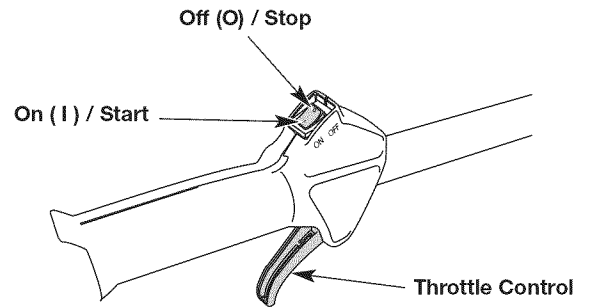
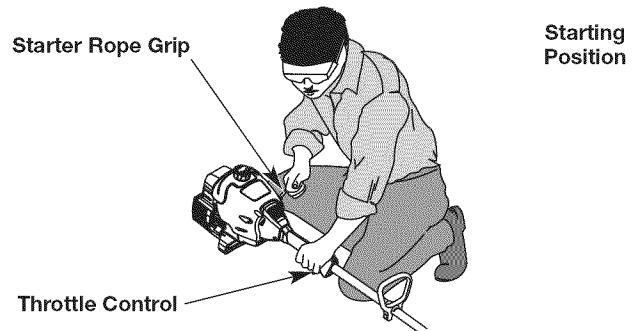

Fig. 6
Fig. 8
**WARNING:** Avoid accidentally starting the unit. To avoid serious injury, the operator and the unit must be in a stable position when pulling the starter rope (Fig. 8).
**NOTE:** There is no need to turn the unit on. The On/Off switch is in the ON ( I ) position at all times (Fig. 6).
5. Crouch in the starting position (Fig. 8).
6. Squeeze the throttle control (Fig. 6) and pull the starter rope with a controlled and steady motion **5 times** (Fig. 8).
2. Press and hold the On/Off switch in the OFF (O) position until the engine comes to a complete stop (Fig. 6).